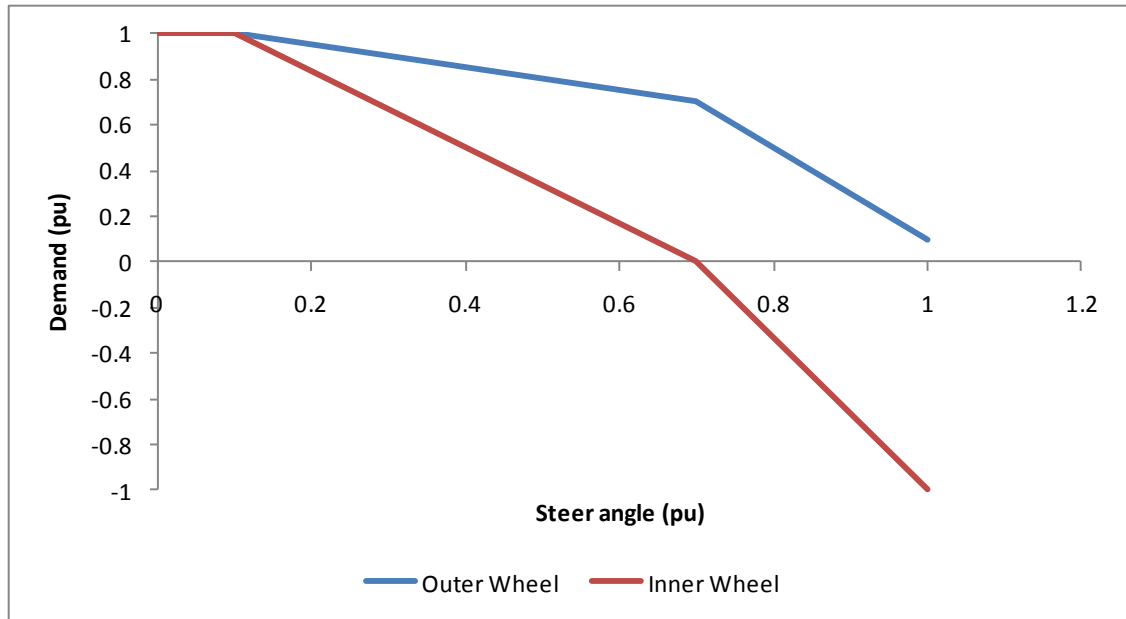

Figure 29 Graph of speed vs. steering angle
- Setup the steering map. This map defines the relationship between the inner and outer wheel speeds and the steering angle. Each map has 4 user definable points as shown in Figure 29.